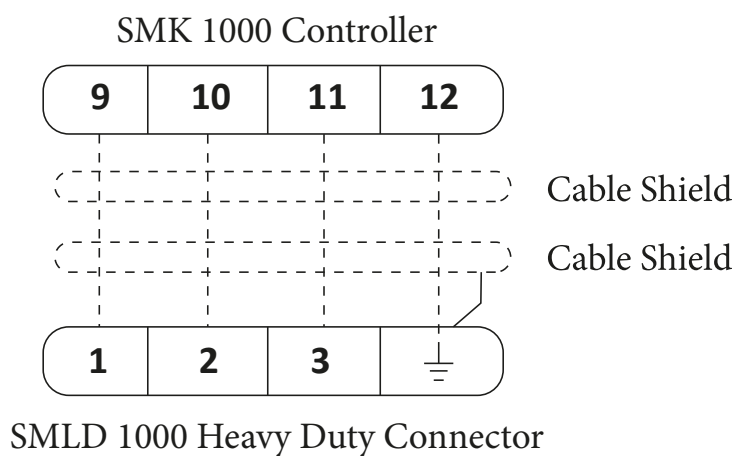

Figure 8 : Wiring diagrams
**Note:** As shown in figure 8 the cable shield is left unconnected in controller side. Please only wire cable shield on the probe side.